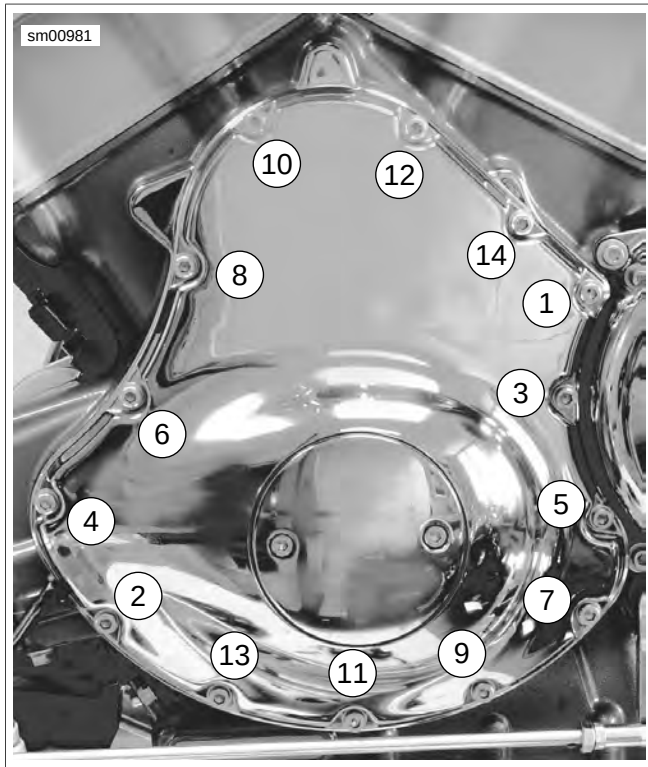

Figure 7-36. Alternator Cover Torque Sequence
Follow sequence shown to tighten cover fasteners in the next step. This prevents warping cover which may cause leaks. See Figure 7-36.
8. See Figure 7-36. Secure alternator cover to engine case with 14 fasteners. Tighten to 9.7 Nm (86 **in-lbs**).